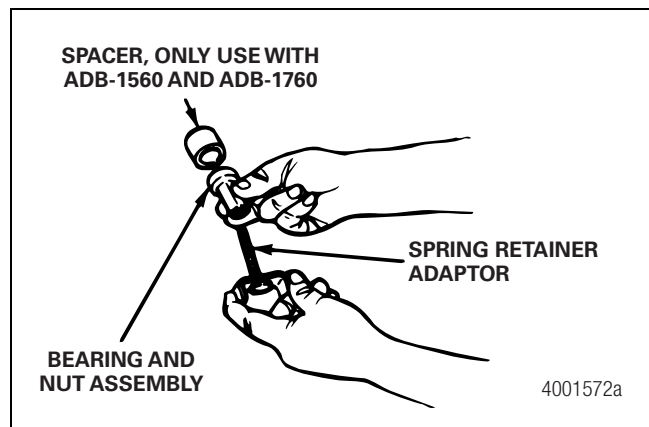

Figure 5.18
11. Install the bearing and nut assembly on the spring retainer adaptor threads. Figure 5.18.